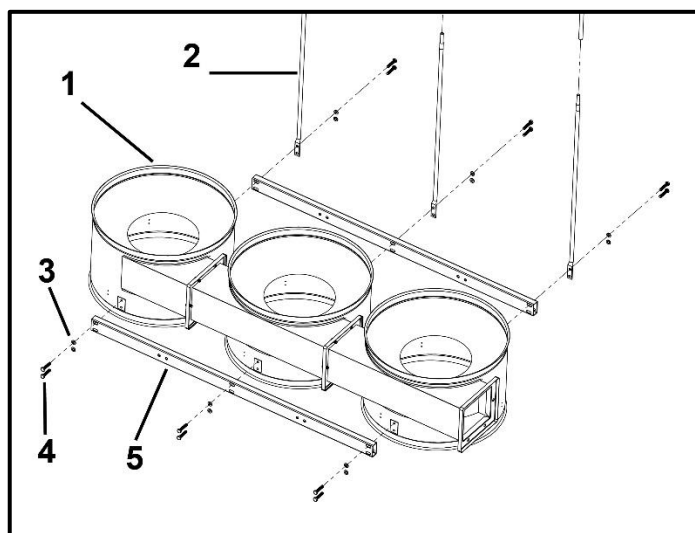

Fig. 4
- Put connecting tubes (5) on two sides of connected separators (1), fixing front connecting tube using hex bolt M8X35 and washers, then fixing rear connecting tube together with upper bag support using hex bolt M8x35 and washers. See Fig 4.